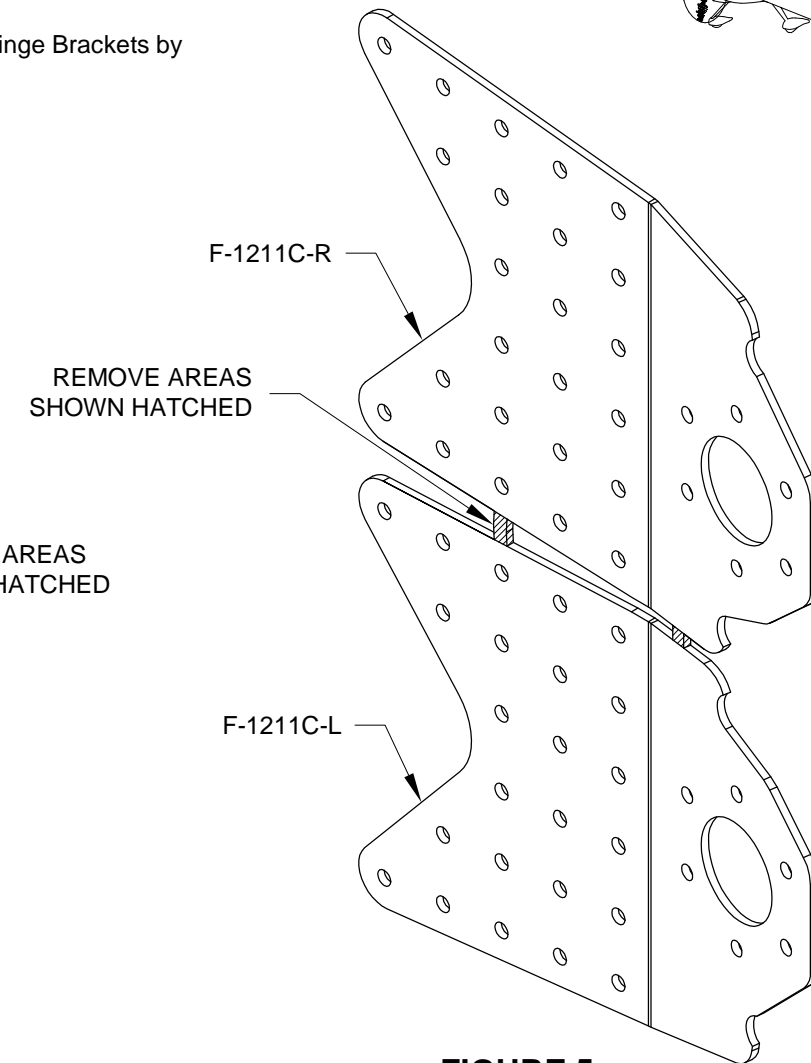

FIGURE 5:
Step 6: Mark, then separate the F-1211C-L & -R Hinge Brackets by removing the areas shown hatched in Figure 5.